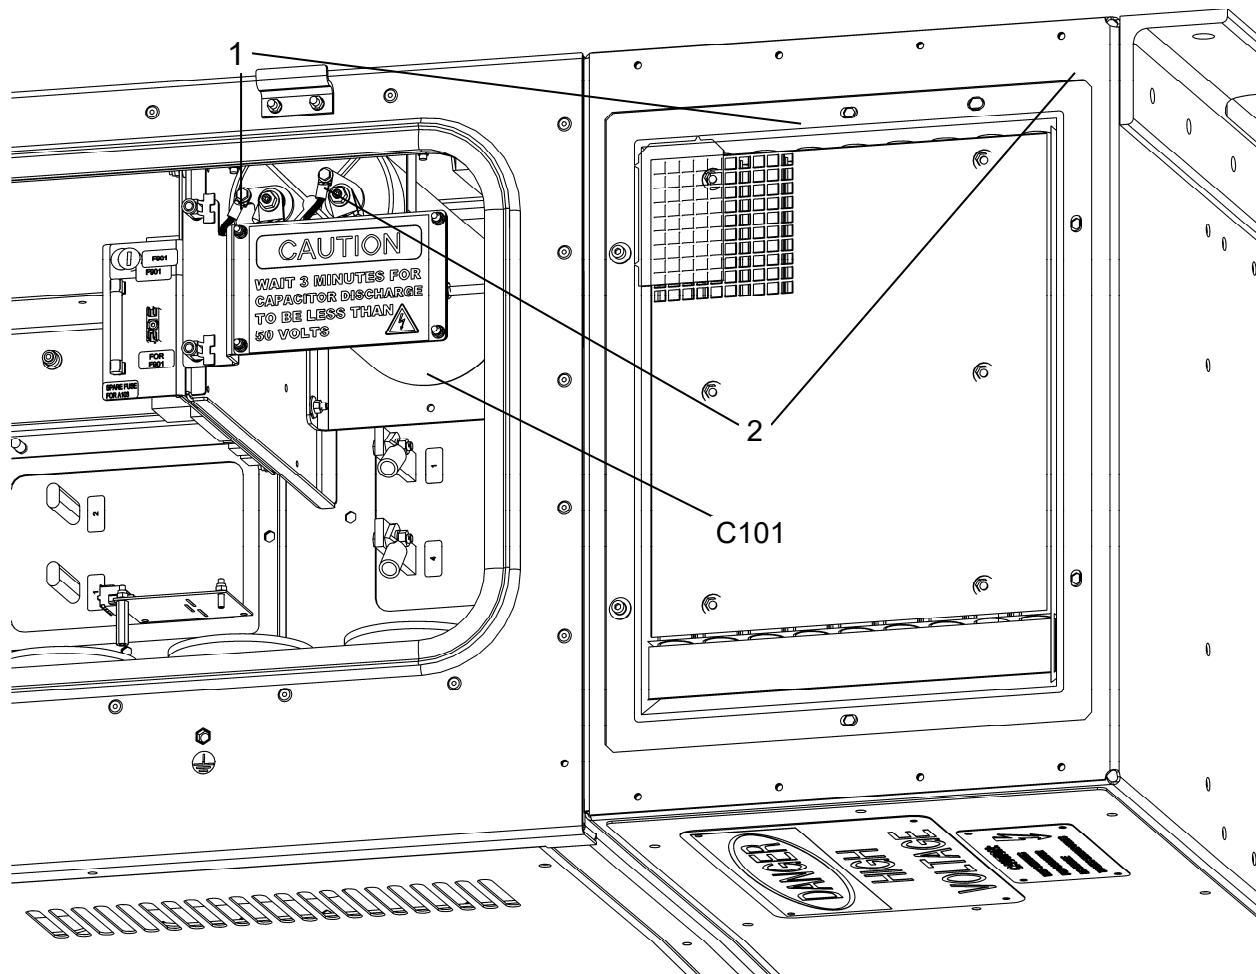

Figure 3-4: Residual C101 Capacitor Voltage Measurement
2. Measure the DC voltage between the terminals (1) and (2) of capacitor C101 by use of a DMM). See Figure 3-4. See also the detailed view. The amount of voltage is important, polarity need not be considered.